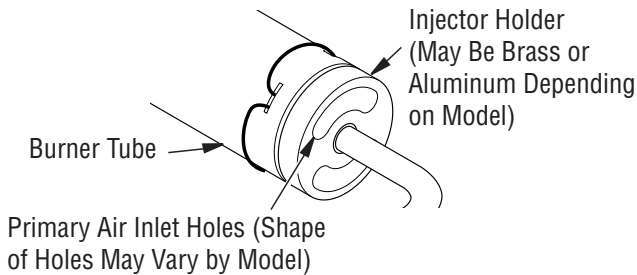

Figure 35 - Injector Holder On Outlet Burner Tube
2. Inspect burner, pilot and primary air inlet holes on injector holder for dust and dirt (see **Figure 35**).